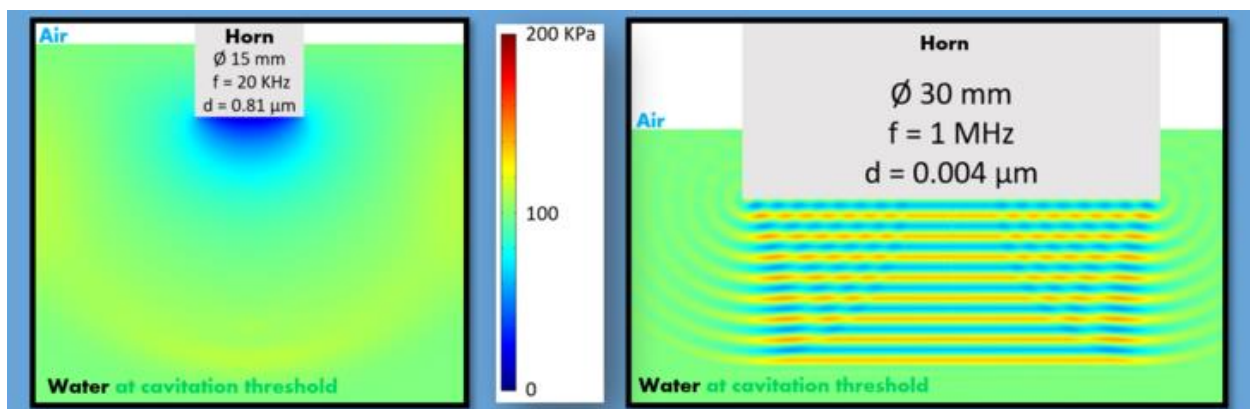

Figure 15: Modeling of ultrasonic horn sonication with better results on the right.
- Sonochemical processing / ultrasound sonolysis (see Figure 15)